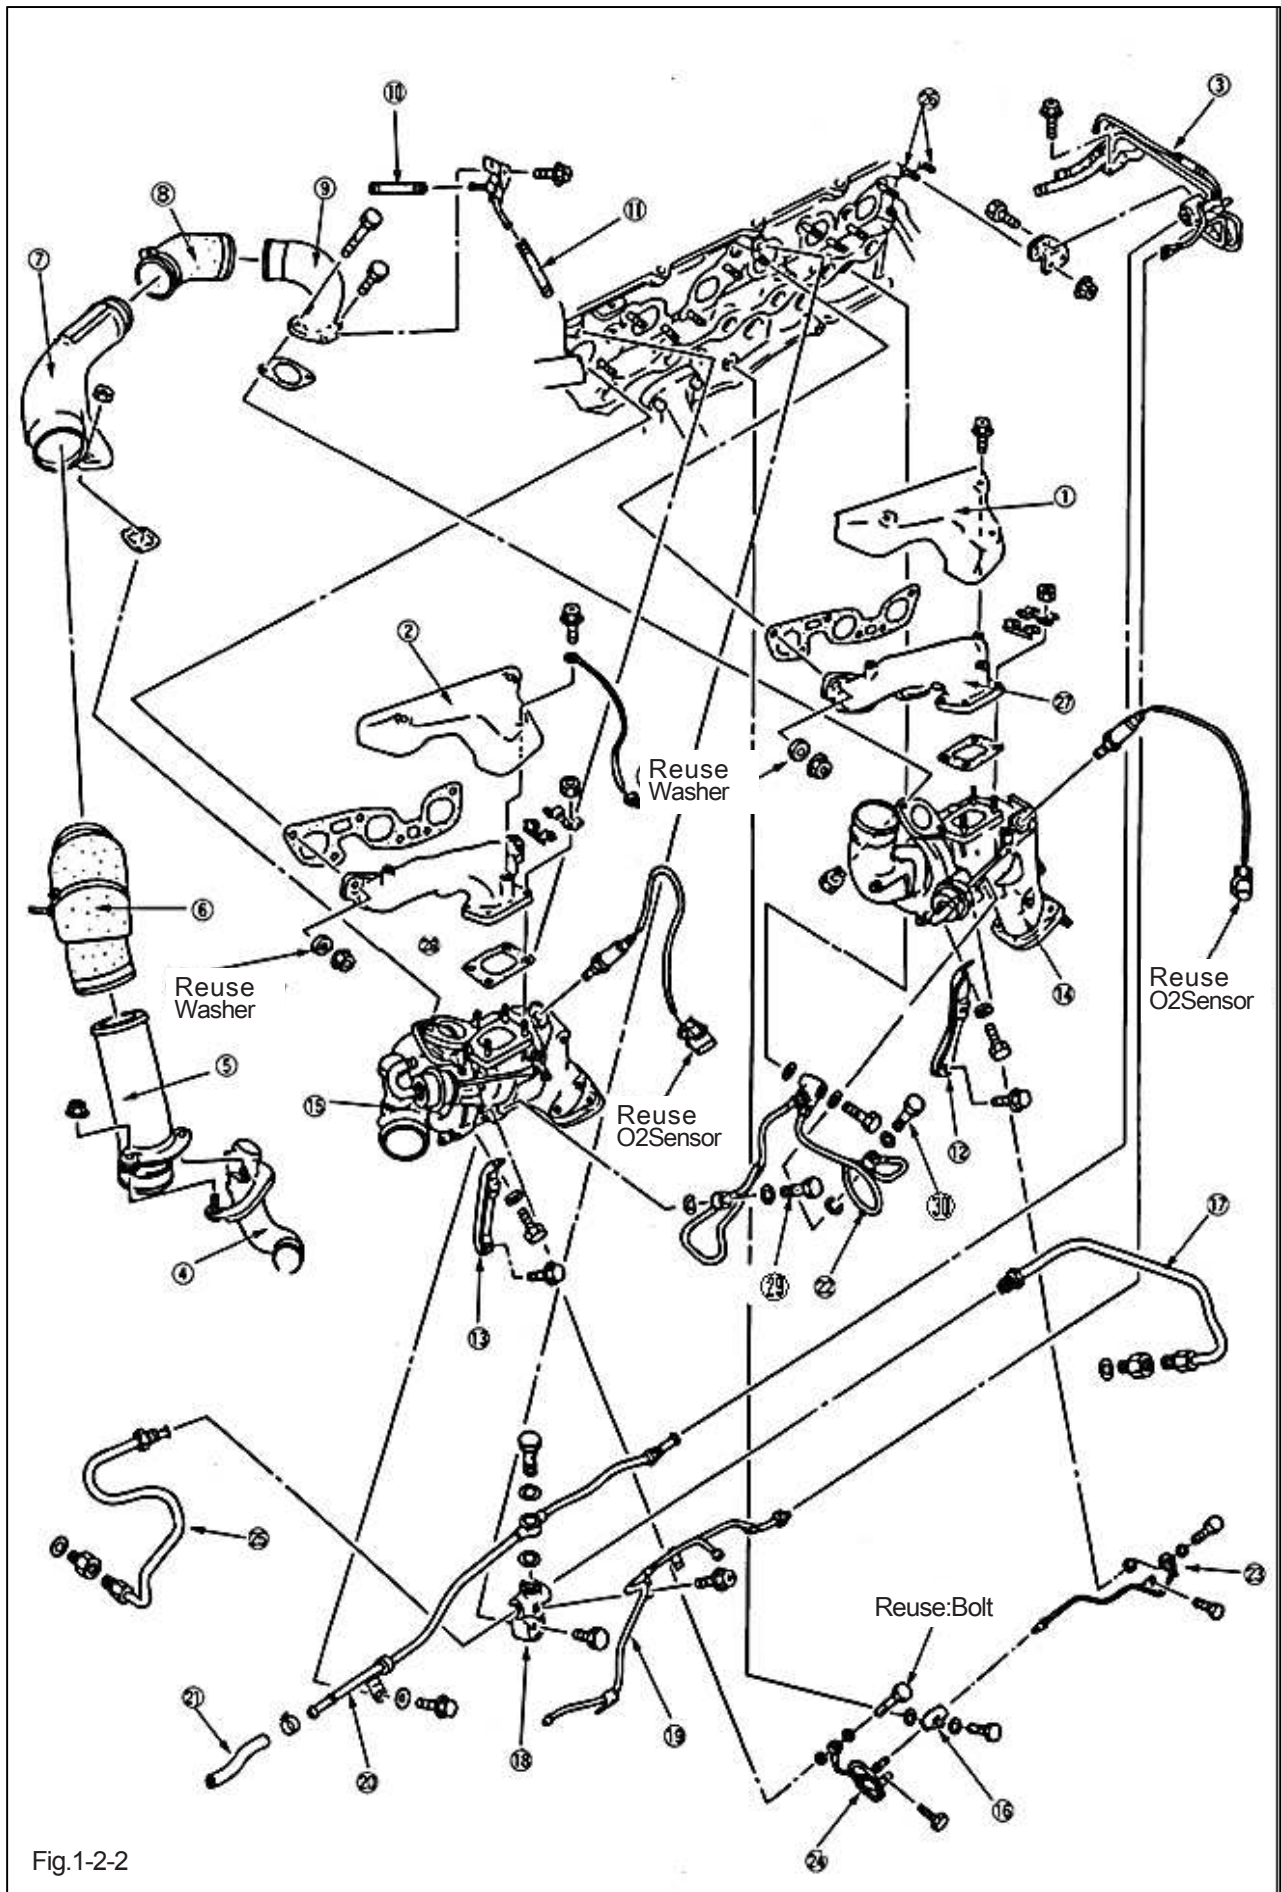

Fig.1-2-2
(2) Please remove in order of 1-30. (Fig. 1-2-2)
(3) Attach the Plug where the Banjo Bolt attached to the engine block in Fig. 1-2-2 ⑳ has been removed. (Fig.3-1-3)
- Washer (Removed in Fig. 1-2-2)
- (5) Install the Turbocharger Stay at the back of the Exhaust Manifold TO4 Flange and at the point where Fig. 1-2-2^⑩ has been removed from the Cylinder Head. (Fig. 3-6-2)